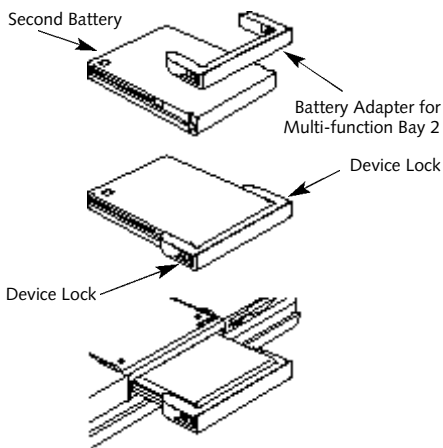

Figure 4-4 Removing and Installing a Battery in the Battery Adapter for Multi-function Bay 2
3. Set the Battery Adapter for Multi-function Bay 2 on top of the battery and push them together. (Figure 4-4.)